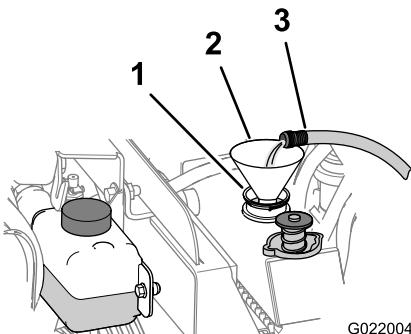

Figure 104
- B. Fill the radiator with clean water (Figure 104).